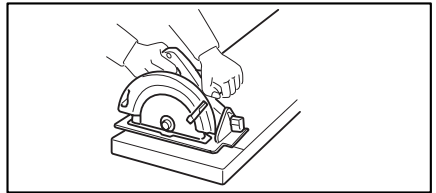
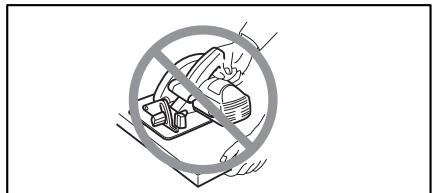

Fig. 5
Fig. 6
16. Place the wider portion of the saw base on that part of the workpiece which is solidly supported, not on the section that will fall off when the cut is made. As examples, Fig. 5 illustrates the RIGHT way to cut the end of a board, and Fig. 6 the WRONG way. If the workpiece is short or small, clamp it down. **DO NOT TRY TO HOLD SHORT PIECES BY HAND!**